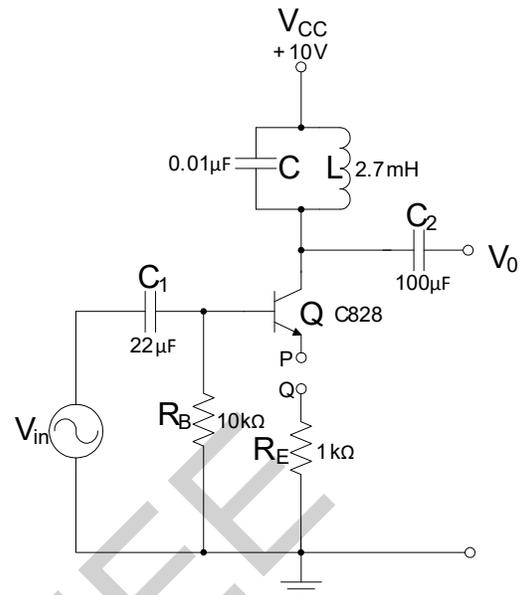

Fig 2.2: Class C Amplifier
1. Connect the circuit as shown in figure 2.2. Connect point P to ground.